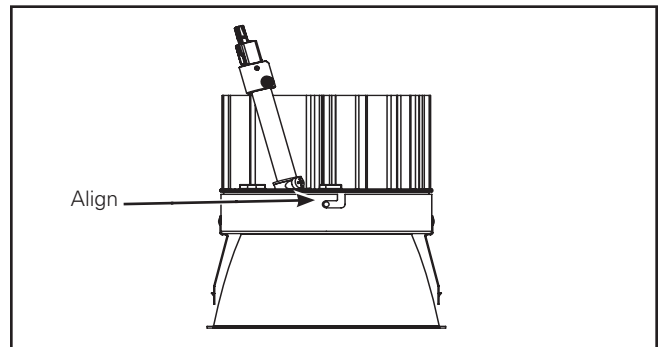

Figure 5.
3. Insert LED Engine into lower trim. Align LED engine screw holes with lower trim screw slots (Figure 5.).